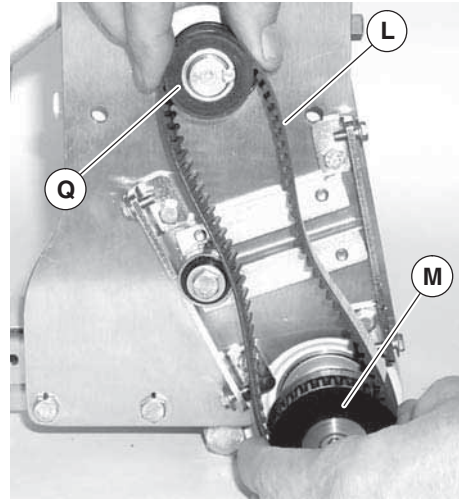

Figure 9
3. Wrap timing belt (Figure 9, item L) around driven pulley (M) and drive pulley (Q). Slide driven pulley onto conveyor shaft.